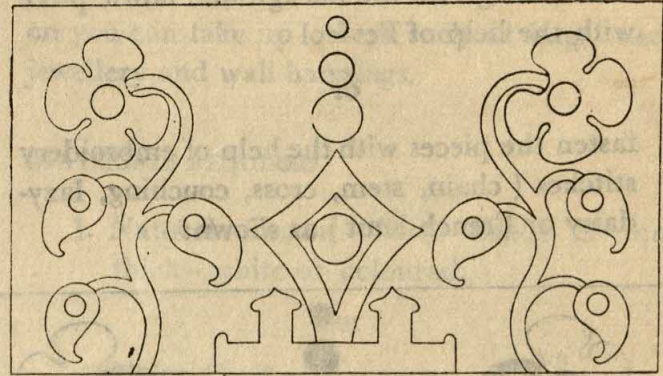

FIG. 1.3.1
1. Make a paper design of the picture and colour it according to your choice. (Fig. 1.3.1)